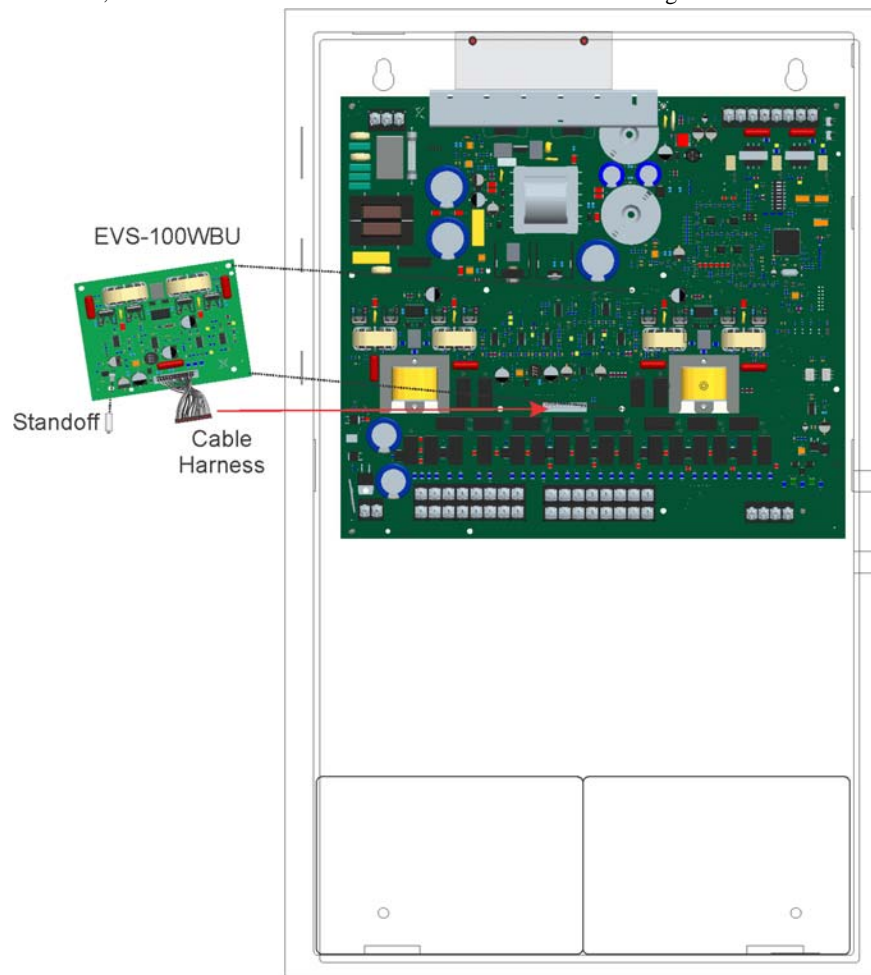

Figure 4.46 Mounting the EVS-100WBU
2. Connect the backup amplifier cable harness (P/N 50116775-001) from the connector labeled “Backup Amplifier” on the EVS-100W to the connector on the EVS-100WBU as shown in Figure 4.46.
- Using the 4 supplied screws, mount the EVS-100WBU to the standoff's as shown in Figure 4.46.